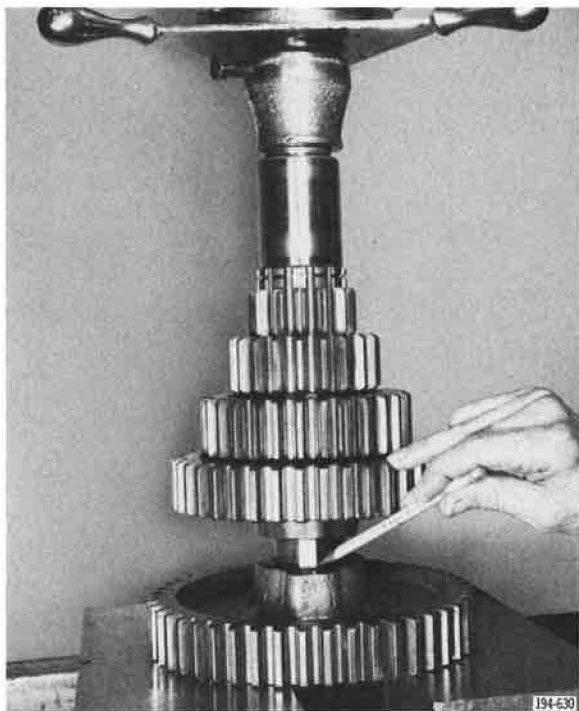

Figure 290. Pressing Gears onto Countershaft
4. Repeat procedure with remaining gears. Fourth speed gear hub to be toward front (away from third speed gear). Main drive gear (fifth speed gear) hub to be toward rear (next to fourth speed gear hub). See Figure 290.